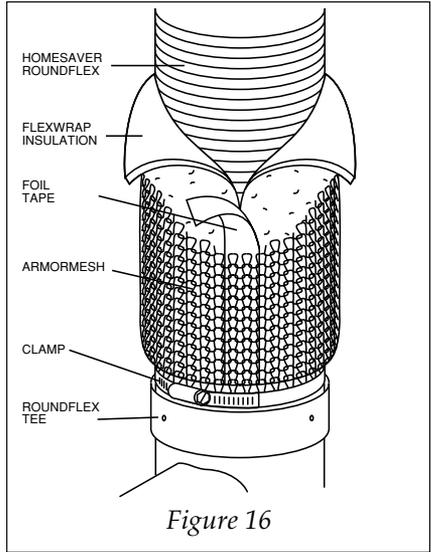

Figure 16
m.) Figure 16, next page, shows the FlexWrap after it has been wrapped on the pipe and a clamp applied to the bottom of the insulation. You'll notice